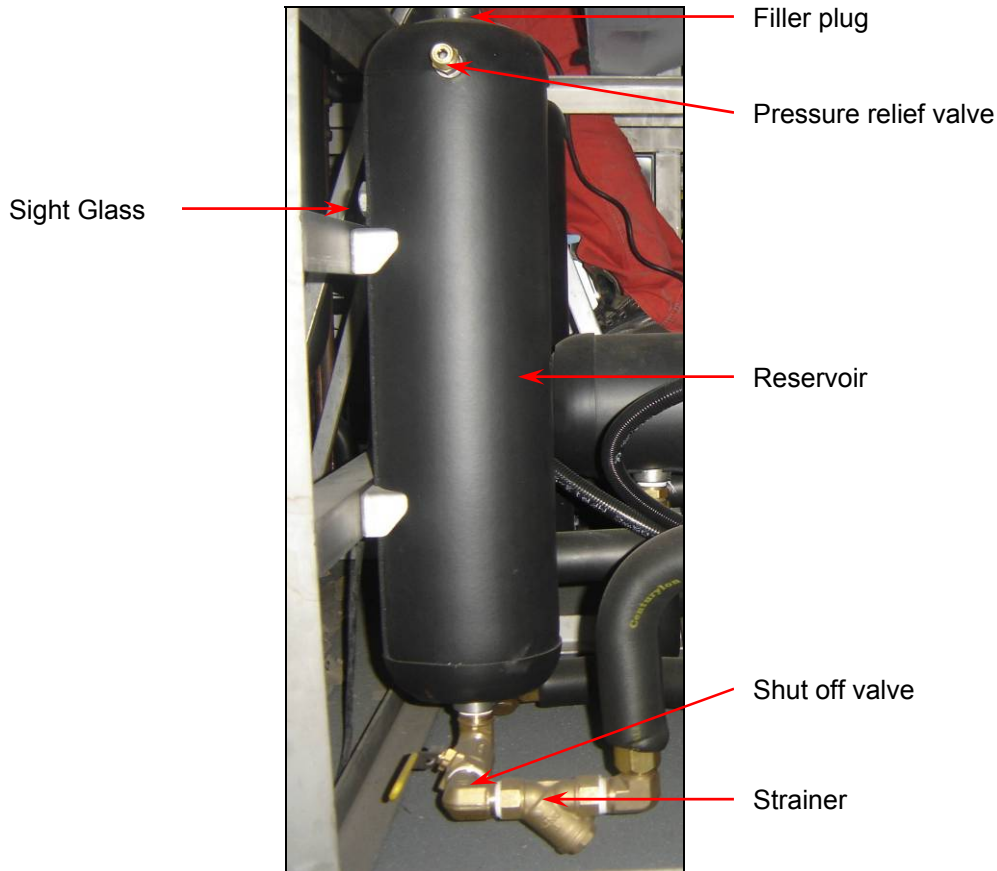

Figure 3 HCS-1 Reservoir
- Remove pressure relief valves on hot and cold circuit reservoirs and plug the fittings (**Figure 3**).